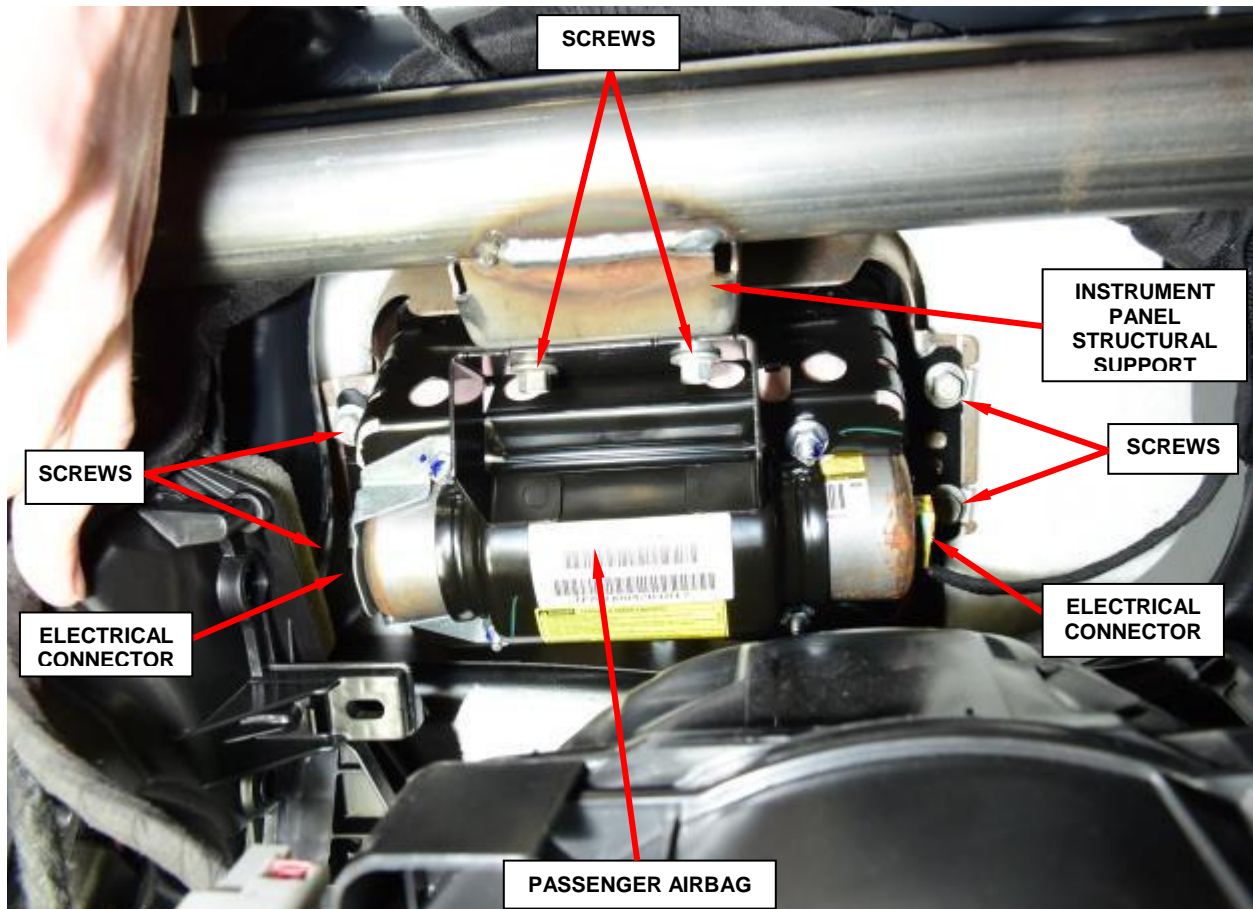

Figure 63 – Passenger Airbag
12. Reach through the instrument panel glove box opening to access and disconnect the two instrument panel electrical connectors from the two Passenger Airbag (PAB) initiators, one at each side of the PAB inflator canister (Figure 63).
13. Reach through the instrument panel glove box opening to access and remove and save the two screws that secure the PAB lower bracket to the instrument panel structural support (Figure 63).
14. Remove and save the four screws that secure the two upper PAB mounting brackets to the U-nuts on each side of the PAB retainer or chute on the underside of the instrument panel cover (Figure 63).